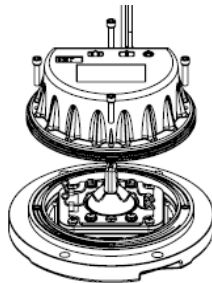
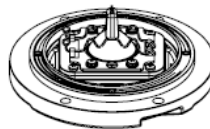

Figure 5-17
Figure 5-18
- Replace the body gasket: Separate the inner cover and upper cover (Figure 5-17) and carefully clean the seal groove. Place the new gasket into the seal groove of the upper cover (pin positioning) in place (Figure 5-18).